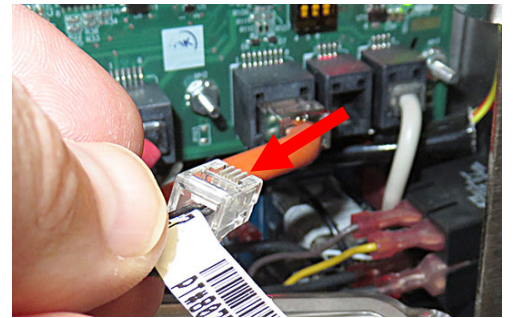

Figure 13
17. Press up on the release tab, on the bottom of the connector, to disconnect and remove the terminator (see Figure 13).